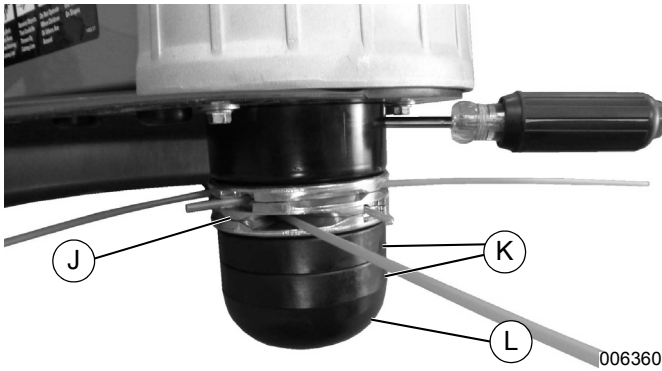

Figure 4-10. Assembly
9. See Figure 4-10. Install cord head (J) and adapter onto the shaft.